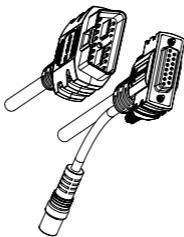

Figure 2.1.4
9. Diagnostic Cable with DB15 Female Connector & 16-pin OBD-II Port. (See Figure 2.1.4)